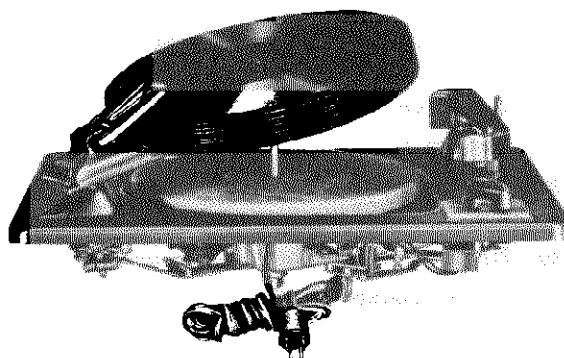

Figure 3—CHANGER, LOADED WITH TWELVE 10" RECORDS.
6. Load the changer to capacity by placing eleven more 10" records over the spindle and onto the record shelf. See figure 3. Reject each record with the master control switch and observe the changer action. The tone arm, in its elevated position, should not strike the bottom of the remaining stack of records. After the full stack of records has dropped onto the turntable, the tone arm should lift high enough to clear the top record by approximately $\frac{1}{8}$ ".